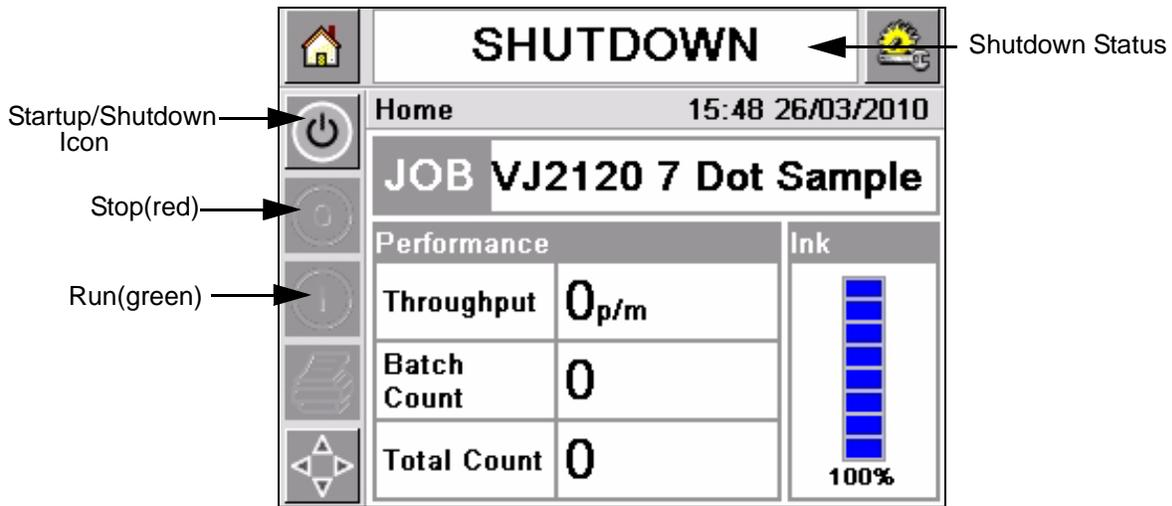

Figure 4-1: Home Page
- 5 During *SHUTDOWN*, the *Stop* (red) and *Run* (green) icons (Figure 4-1) are unavailable (in grey color).